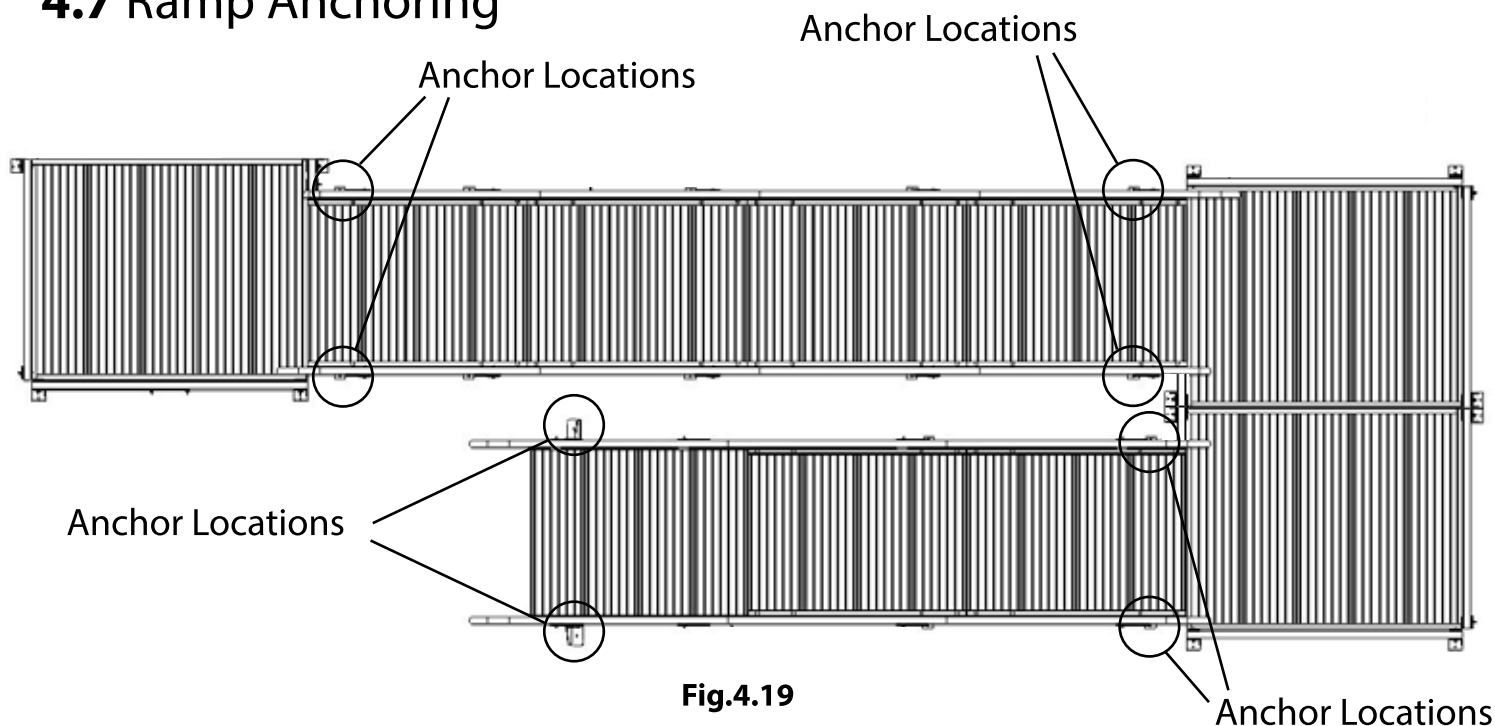

Fig.4.19
4.7 Ramp Anchoring: Ramps must be anchored at the upper and lower ends (**Fig.4.19**). Secure anchoring for the first pair of posts at the bottom is especially important because this adds necessary strength to the lower end of the handrails.